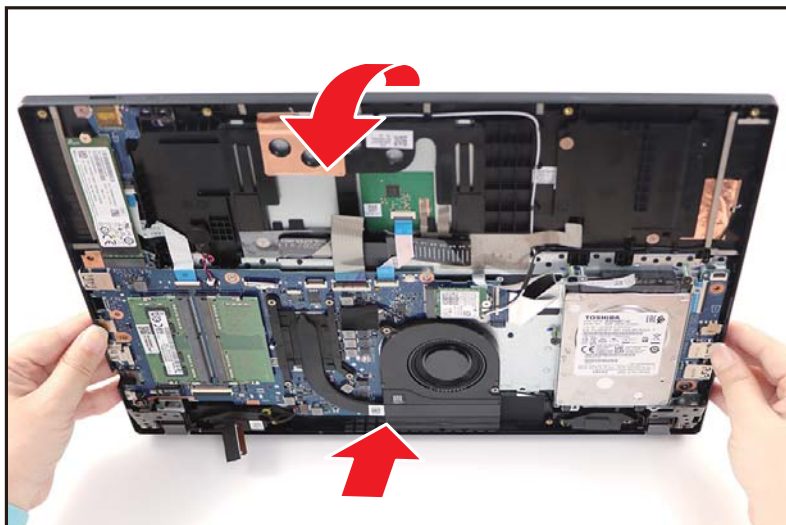

Figure 1-23. LCD Module Removal
6. Open the top assembly again, and then push it backwards to remove the top assembly away from the LCD module (Figure 1-23).